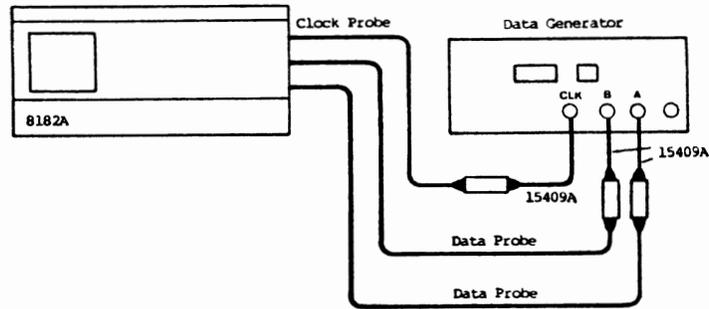

Figure 4-1 Operating Mode Test Setup
8. Connect Equipment as shown in figure 4-1 and press RUN.